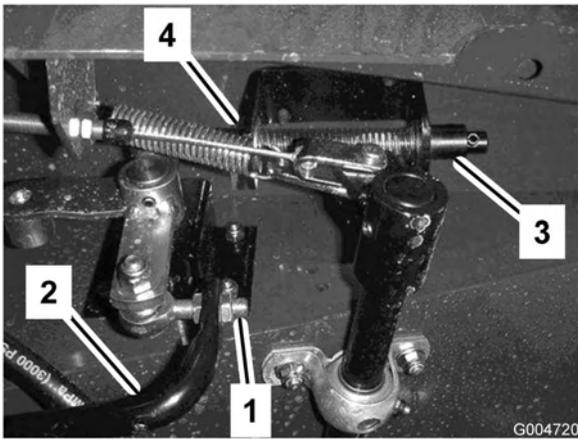

Figure 69
3. Loosen the jam nuts on the rod end and adjust the traction rod length (Figure 69) so that the pedal contacts the pedal stop when the pump lever reaches full stroke. Secure the jam nuts.
3. Fill the reservoir (Figure 69) with approximately 8 U.S. gallons (30 l) of hydraulic fluid; refer to Checking the Hydraulic Fluid.